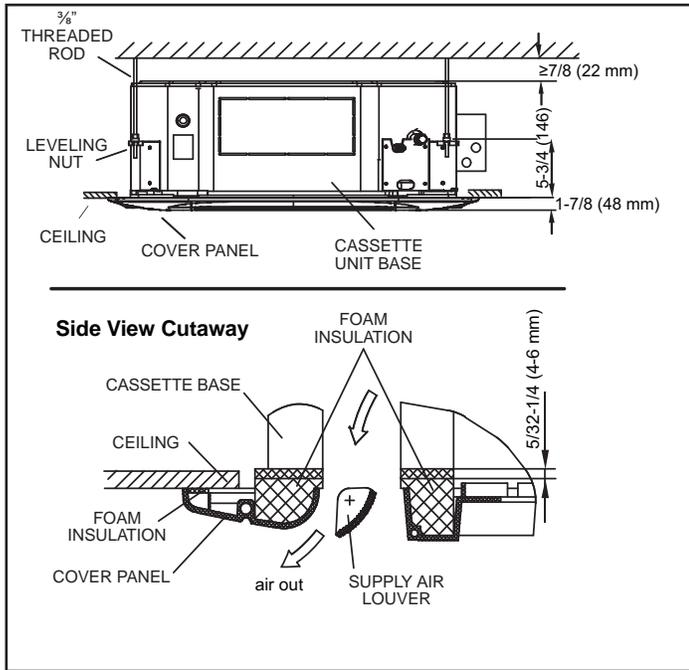

Figure 16. Cover Panel in Place
2. Press the two grille latch release buttons at the same time to release the grille. See figure 16. Tilt the return air grille outward at a 45° angle and lift the grille away from the panel. Carefully place the return air grille off to the side.
10. Continue to tighten the cover panel securing screws until the insulation between the cover panel and the cassette base has been compressed to approximately $\frac{1}{4}$ ". The cover panel must form a seal with the ceiling and the cassette base around the entire perimeter of the unit. See figure 16.